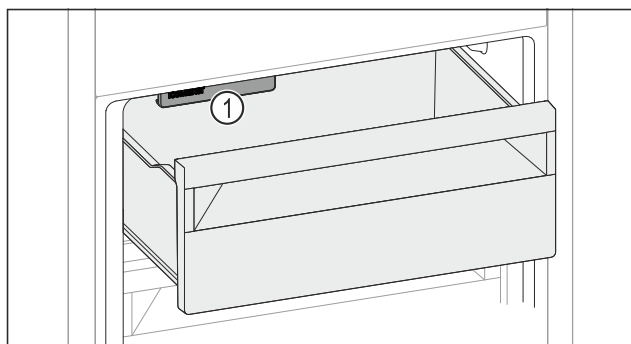

Fig. 164
- ▶ Pay attention to the IceMaker Fig. 164 (1).